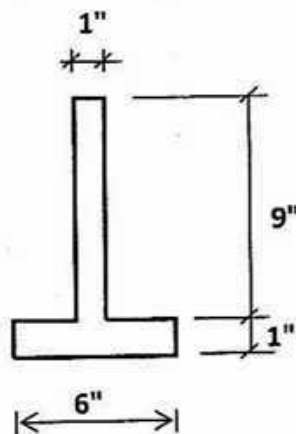

Fig. 4
6. Compute the yield moment, plastic moment and shape factor for bending about major axis of the section shown in Fig. 4. Given  $F_y = 42$  ksi. 16 2/3